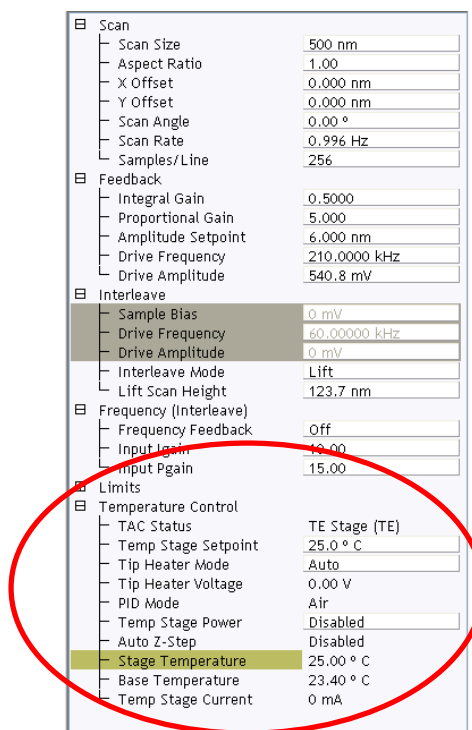

**Figure 7.** The ceramic probe holder (left) and the ceramic probe holder stand (right).
- 8) Load a probe into the special ceramic probe holder (also located in the blue bin). The ceramic probe holder is seen at left in Figure 7 below.
- a. The ceramic probe holder uses a special stand, shown at right in Figure 7. Place the ceramic probe holder on the correct probe loading station. Pressing the ceramic probe holder down on the correct probe loading station will cause the pin to release the spring clip on the holder. Slide the probe under the clip to the normal probe location, just off the back of the groove. Release the pressure on the ceramic probe holder to allow the spring clip to hold the probe in place.